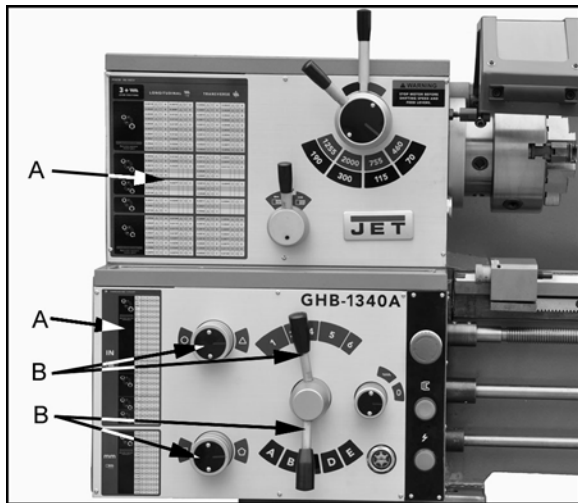

Figure 16
1. Reference the feed and thread table (A, Fig. 16).
2. Move knobs and handle (B, Fig. 16) to the appropriate position.